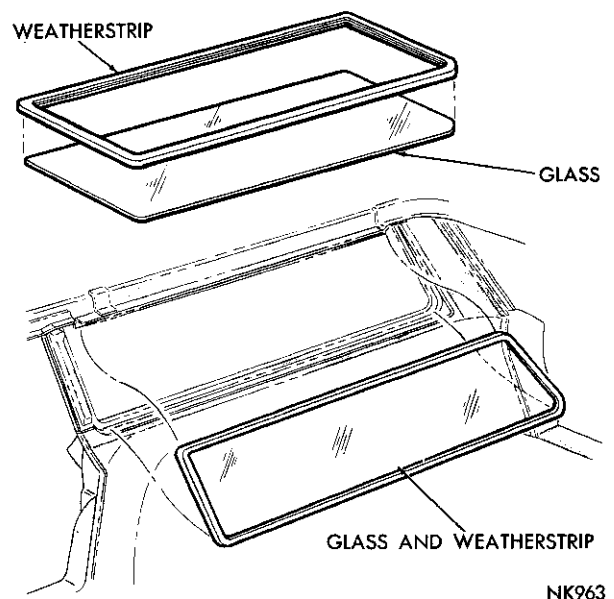

Fig. 131—Quarter Window Assembly
(1) Install the weatherstrip on the quarter glass.
(2) Position the glass and weatherstrip assembly in the window opening from inside the vehicle (Fig. 131).
(3) Position the roof side rail retainer to the mating under surface of the side rail support and install the retaining screws.
(4) Position the wheelhouse belt bar retainer to the belt bar and install the retaining screws.